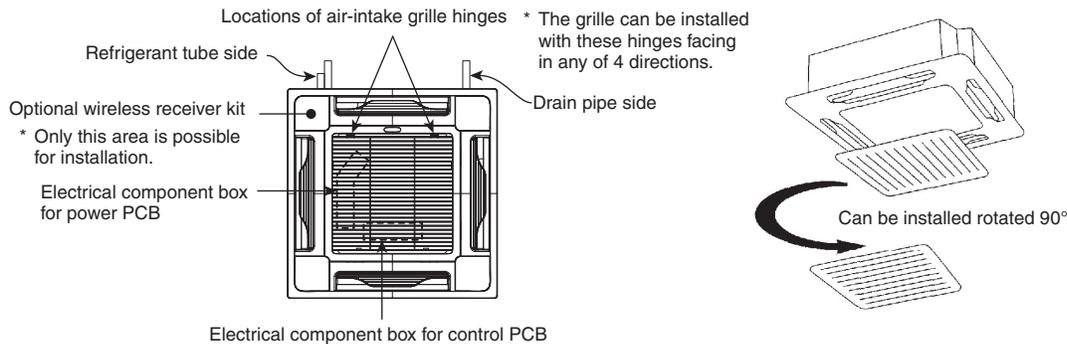

Fig. 3-51
- With this ceiling panel, the directions of the air-intake grille lattices when installing multiple units, and the position of the label showing the company name on the corner panel, can be changed according to customer requests, as shown in the figure below. However, the optional wireless receiver kit can only be installed at the refrigerant-tubing corner of the ceiling unit. (Fig. 3-51)